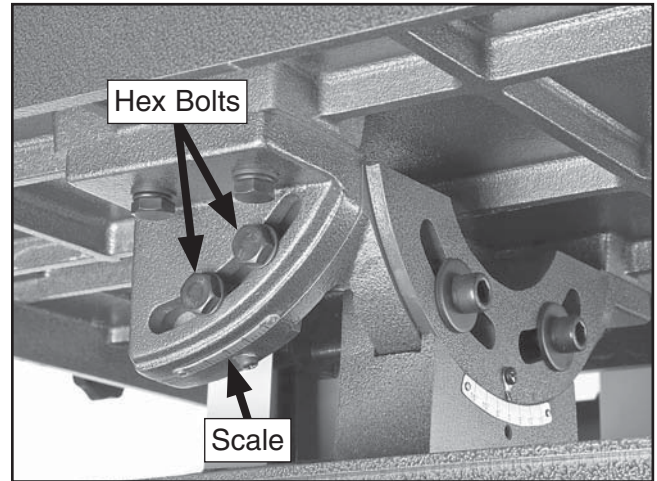

Figure 34. Front-to-back table tilt controls.
2. Loosen the four hex bolts underneath the table—two on each side (see **Figure 34**).
3. Using the scale shown in **Figure 34** as a guide, adjust the table tilt and re-tighten the four hex bolts to secure the setting.